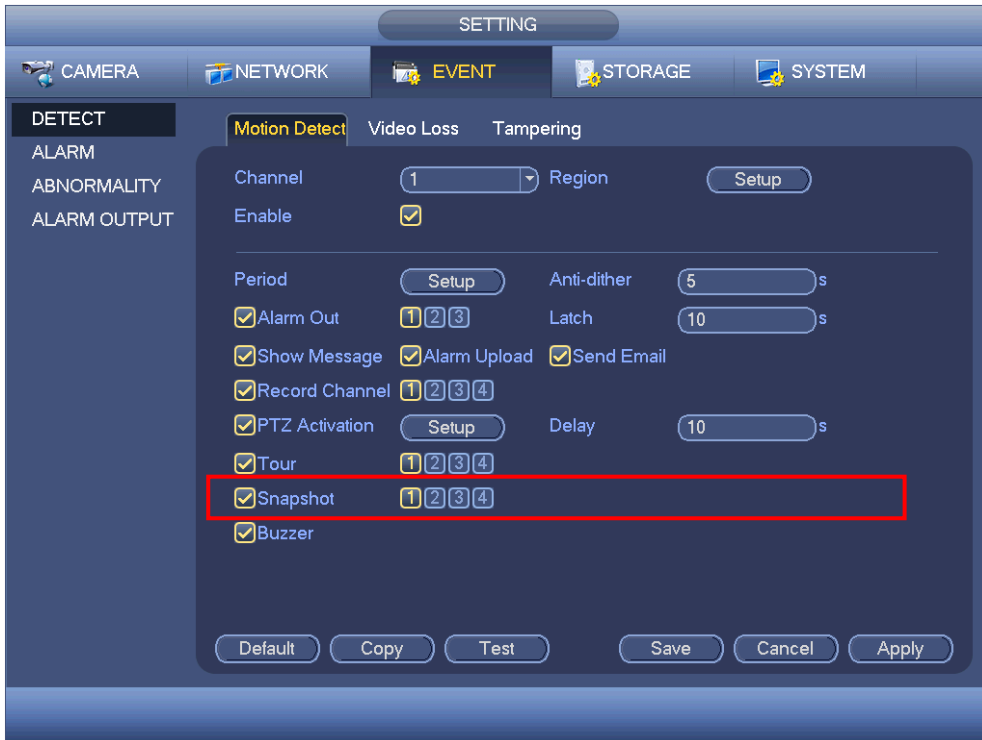
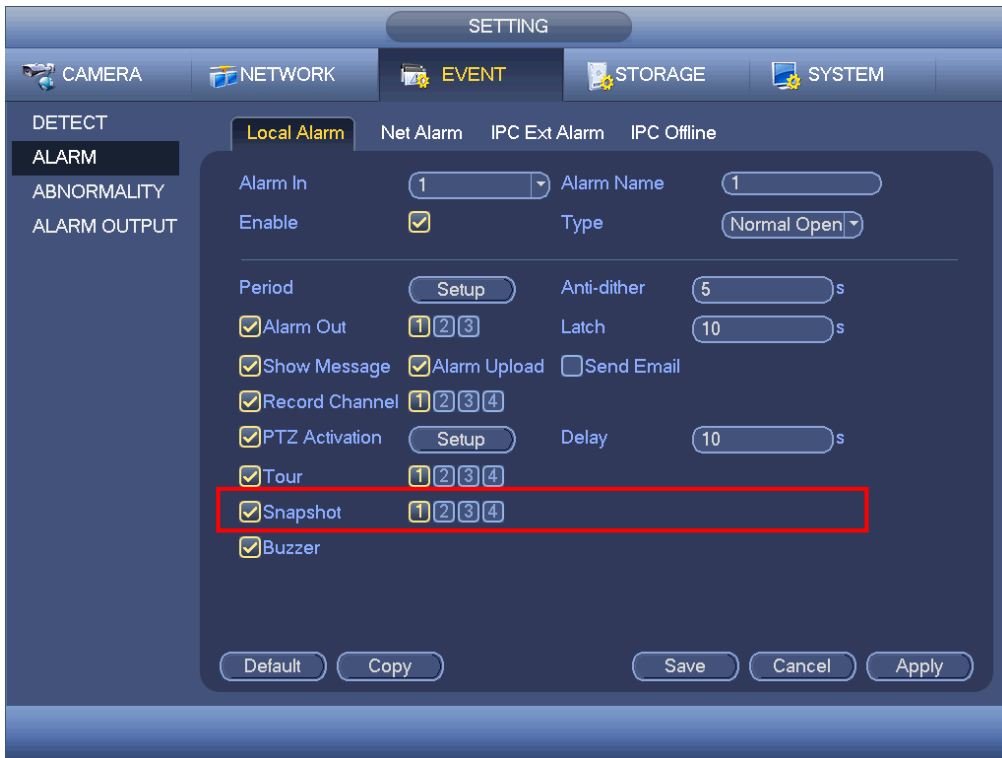

Figure 4-109
Figure 4-110
- In main menu, from Setting->Event->Detect, please enable snapshot function for specified channels (Figure 4-109). Or In main menu, from Setting->Event->Alarm (Figure 4-110) please enable snapshot function for specified channels.